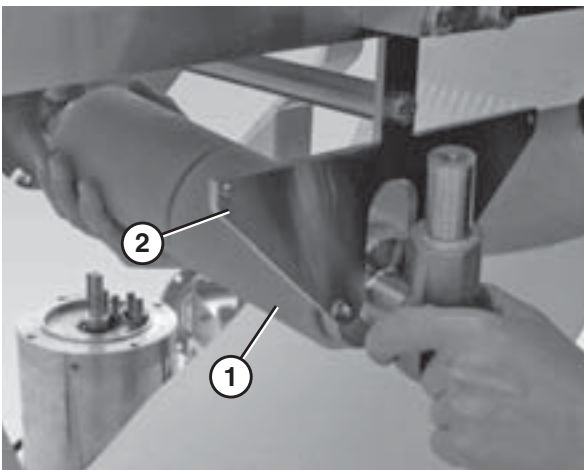

Figure 69
15. Lower the end of the drive shaft spindle (Figure 69, item 1) until it is clear of the side plate (Figure 69, item 2) and remove it.